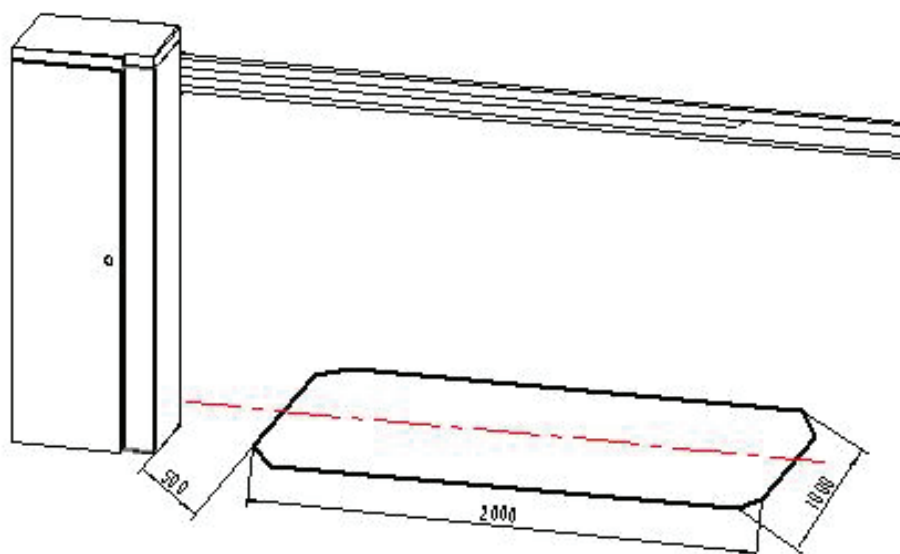

Figure 3
Position of the induction coil: Generally, the induction coil size would be 2m(L) x 1m(W), its central axis should be right under the barrier boom, please refer to the figure 3.